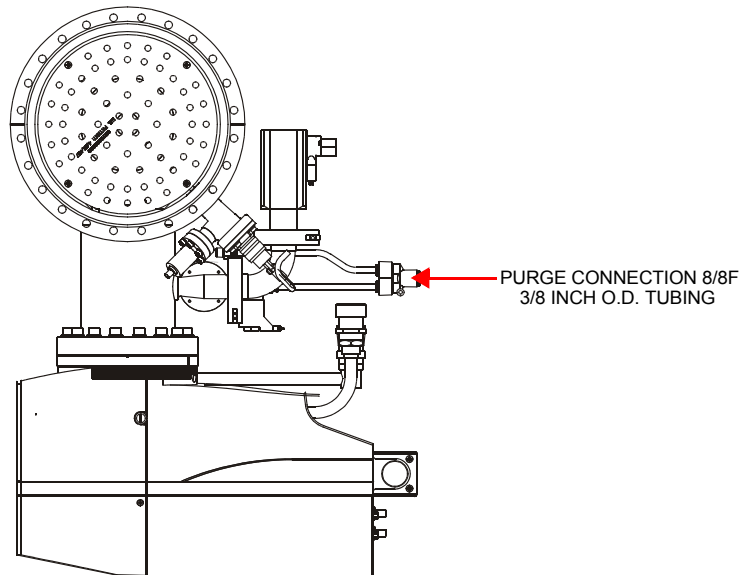

Figure 3-3: Nitrogen Connection
1. Connect tubing to the nitrogen purge connection as shown in Figure 3-3.